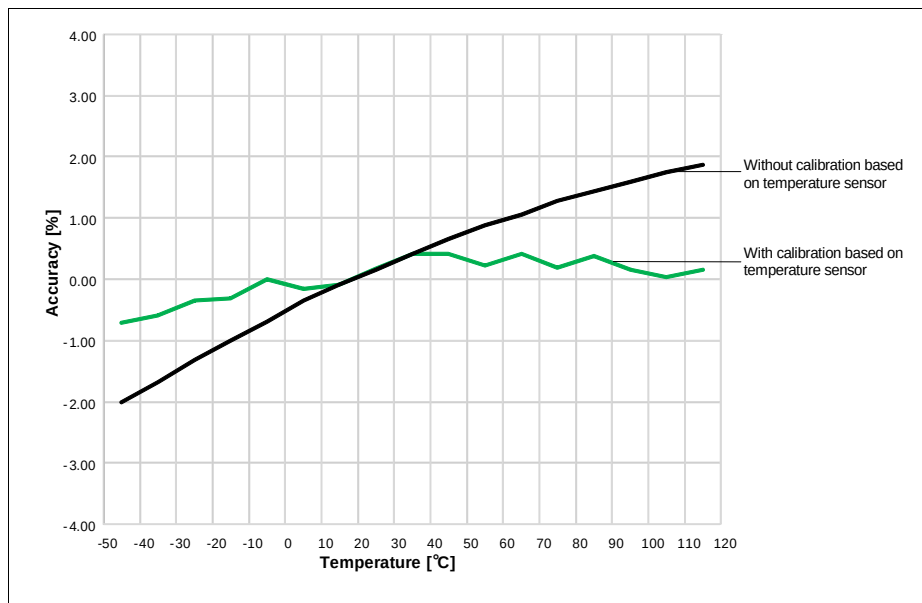

**Figure 13** Typical DCO1 accuracy over temperature
**Figure 13** shows the typical curves for the accuracy of DCO1, with and without calibration based on temperature sensor, respectively.